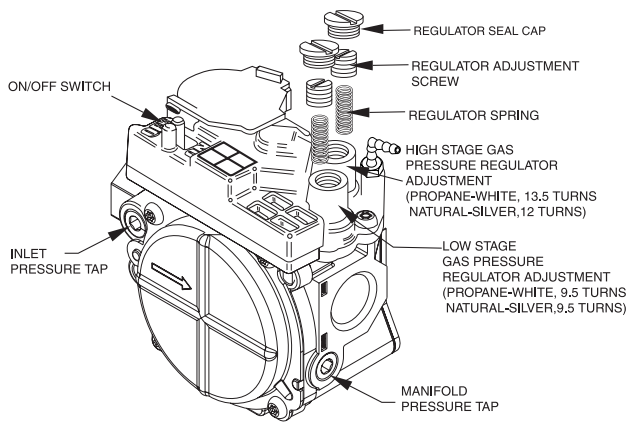

Fig. 58 - Series G and J Gas Valve
NOTE: For 2-stage and variable-speed furnaces with a Series G / J gas valve, (see Fig. 58) they **MUST have both regulator springs replaced** and the gas valve **MUST be pre-adjusted**.
For Fig. 58 (Series G and J Gas Valve)
2. Remove 1/8-in. (3 mm) pipe plug from inlet pressure tap on gas valve. (See Fig. 58 or 59.) DO NOT DISCARD 1/8-in. (3 mm) PLUG.
2. Remove 1/8-in. (3 mm) pipe plug from manifold pressure tap on downstream side of gas valve. (See Fig. 58, 59, and 66.)
- a. Remove caps that conceal adjustment screws for gas valve regulators. (see Fig. 58 or 59.)